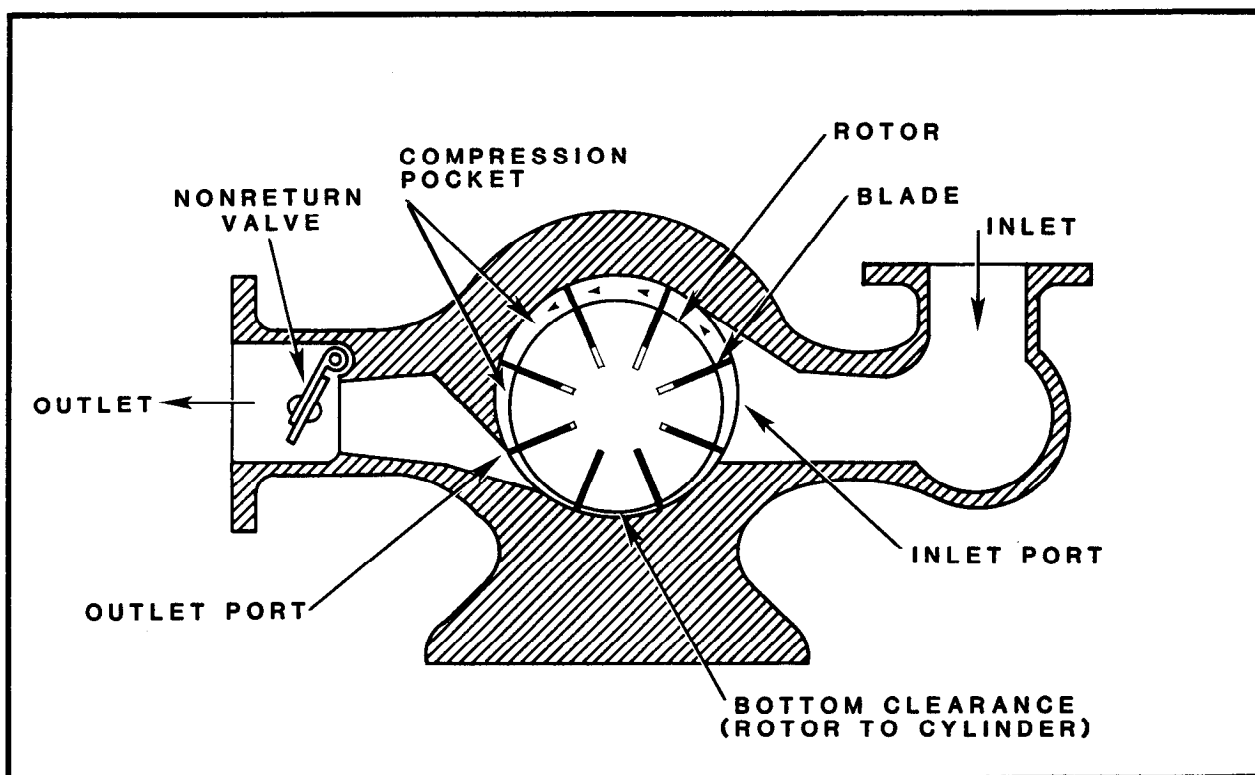

FIGURE 2-6. Cross Section of Rotary Sliding Vane Compressor
**1 DESCRIPTION.** Rotary sliding vane compressors (figures 2-6 and 2-7) consist of a cylindrical casing in which an eccentrically mounted rotor is located. The rotor is fitted with blades that are free to slide in and out of longitudinal slots. In operation, the blades are forced outward by centrifugal force and form compartments where air is compressed. Each compartment varies from a maximum volume on the suction side of the revolution to a minimum volume on the compression half of the revolution. This gives a positive displacement type suction and pressure effect. Rotary sliding vane machines are normally directly connected to electric motors or internal combustion engines. Operating and maintenance instructions for electric motors and internal combustion engines are contained in NAVFAC MD-205, Central Heating and Steam Electric Generating Plants.